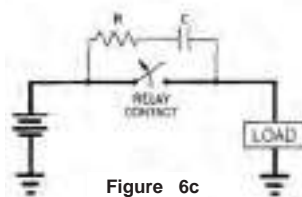

Figure 6c
- Figure 6c illustrates the traditional RC Snubber. The snubber will suffice for low power and energy situations, but suffers a size and cost penalty at high power.